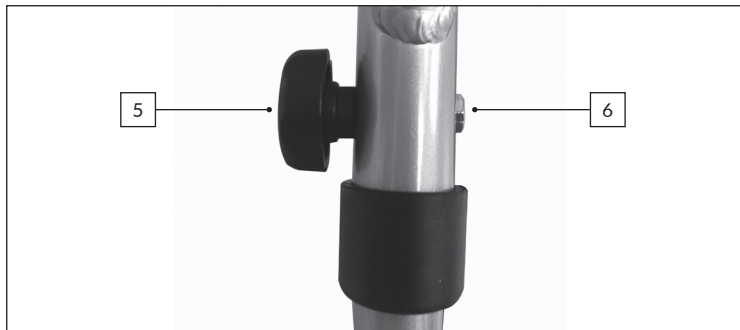

Figure 5:
4. Refer to Figure 5. Attach the hand wheel (item 5), to the hand wheel bolt (item 6) and tighten.